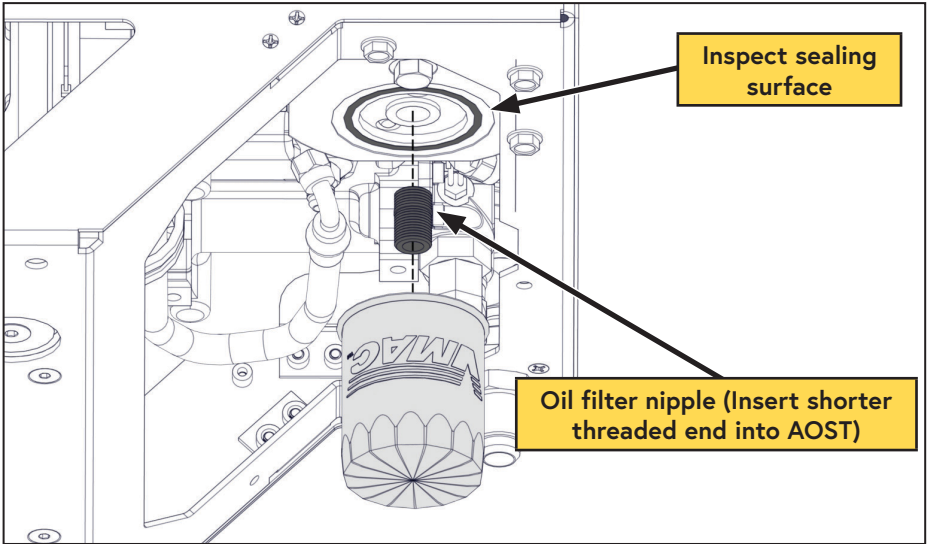

Figure 33 — Replace oil filter
- ☐ Ensure the threaded nipple did not unscrew with the oil filter (Figure 33).
- ☐ *If the nipple came out with the oil filter, remove it from the filter, being careful to avoid damaging the threads (Figure 33).
- ☐ *To reinstall the nipple, thoroughly clean the threads and apply Loctite 242 (blue) to the end with the short threads and replace it in the AOST (Figure 33).
- ☐ Clean the gasket sealing surface on the front of the AOST and inspect it for damage. The surface must be free of old gasket material, and smooth, to ensure a good seal (Figure 33).